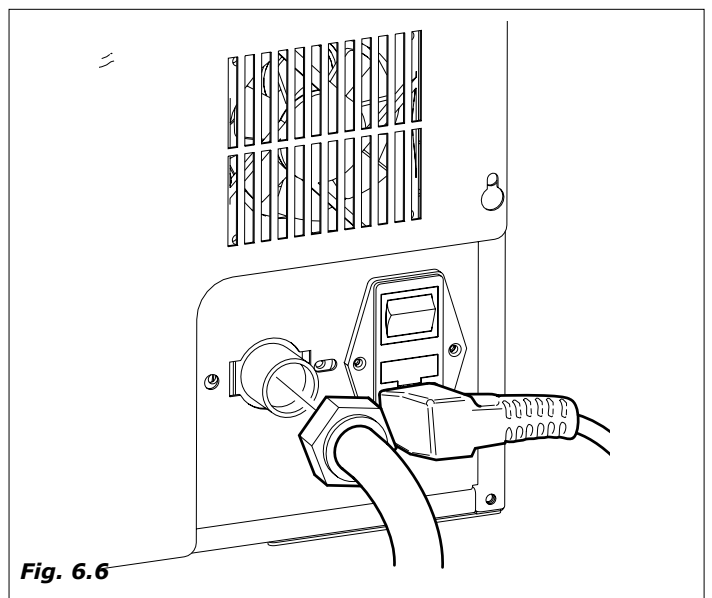

Fig. 6.6
- the foreseen connection is a 3/ 8 gas (Fig.6.6).